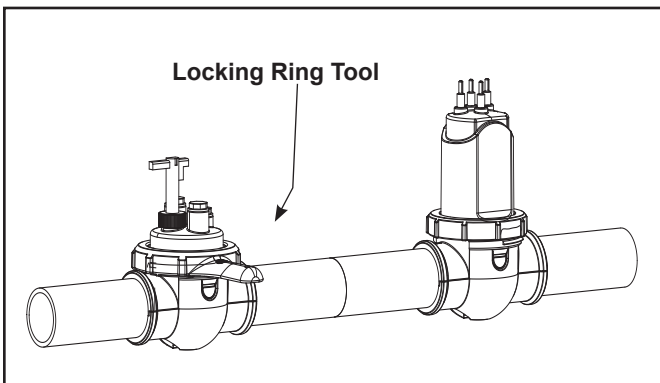

Figure 15. Locking Ring Tool
- Screw down the locking ring to the threaded clamp using the locking ring tool (see Figure 15).